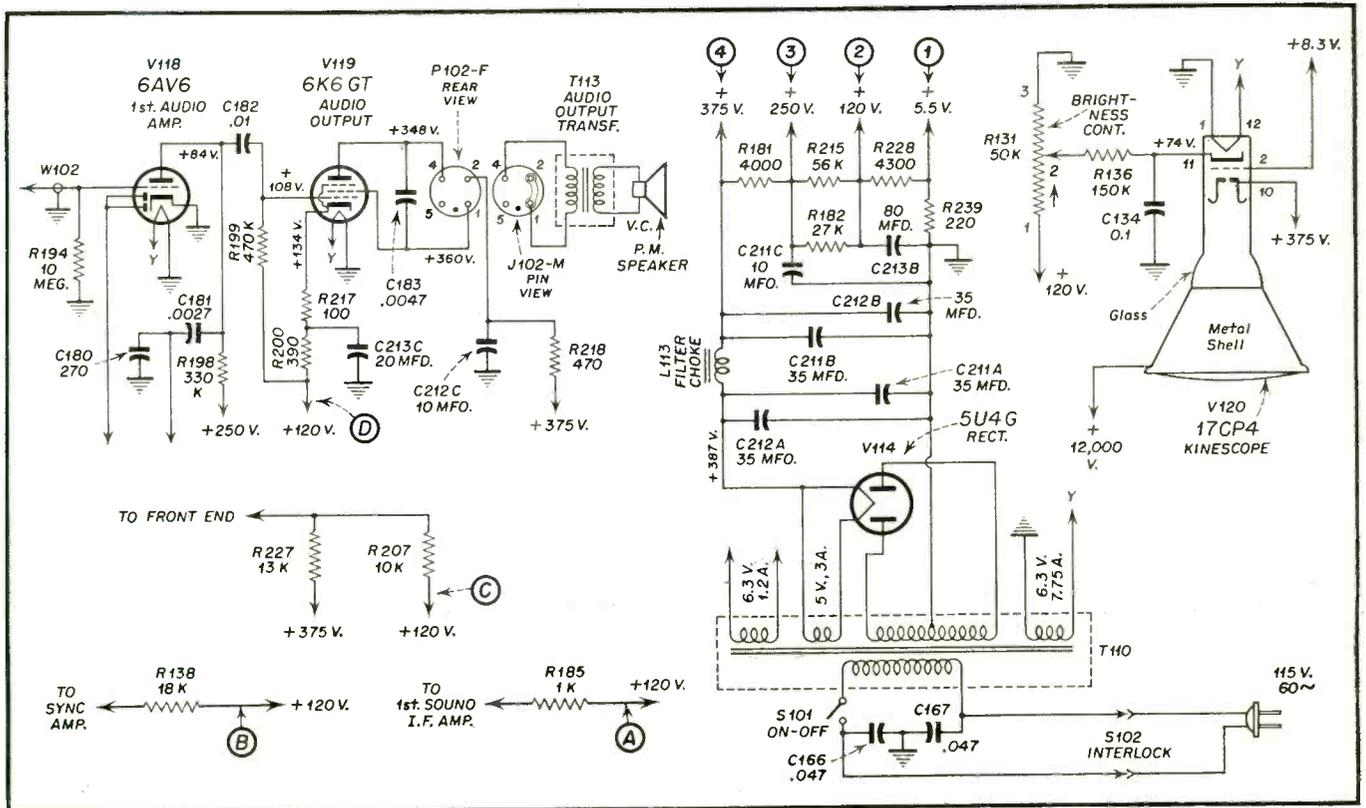

Fig. 1—Partial schematic of RCA chassis No. KCS47B, i.v. power supply and audio.
3. Voltage checks at key points in the circuit help determine whether the trouble is in the low voltage system. The following voltages are read at the indicated points of the voltage divider across the low voltage supply, Fig. 1: